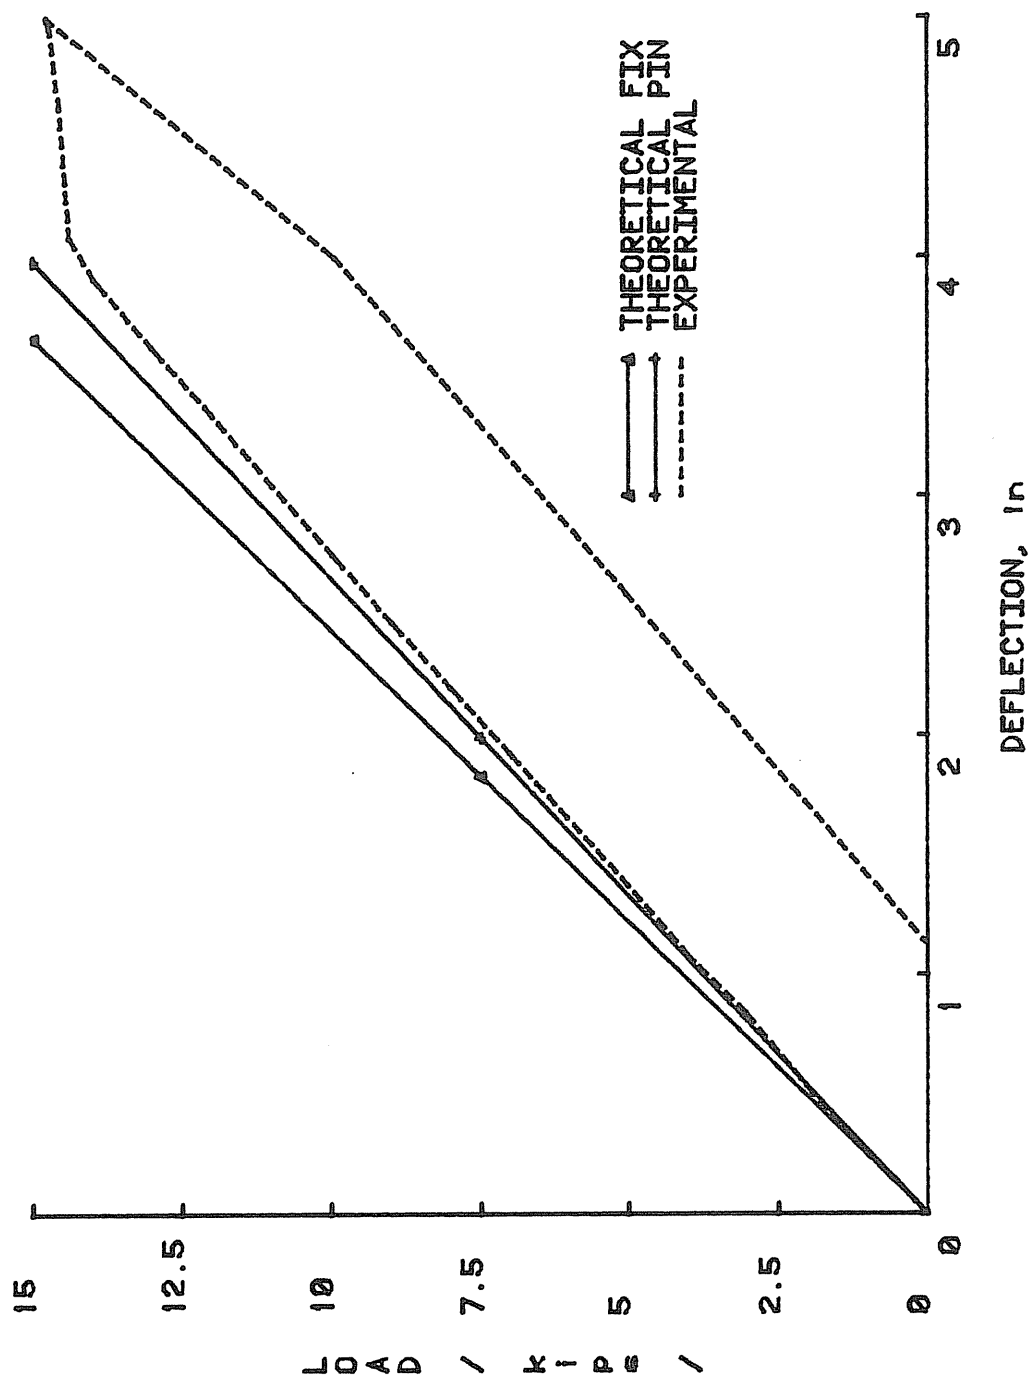

FIGURE C.2 LOAD VS. CENTERLINE DEFLECTION, TEST PBP3
- Figure C.2 shows that the centerline deflection was close to the pinned base theoretical curve up to the failure load of 14.93 kips, at which load the frame deflected with no increase in load, signifying failure.